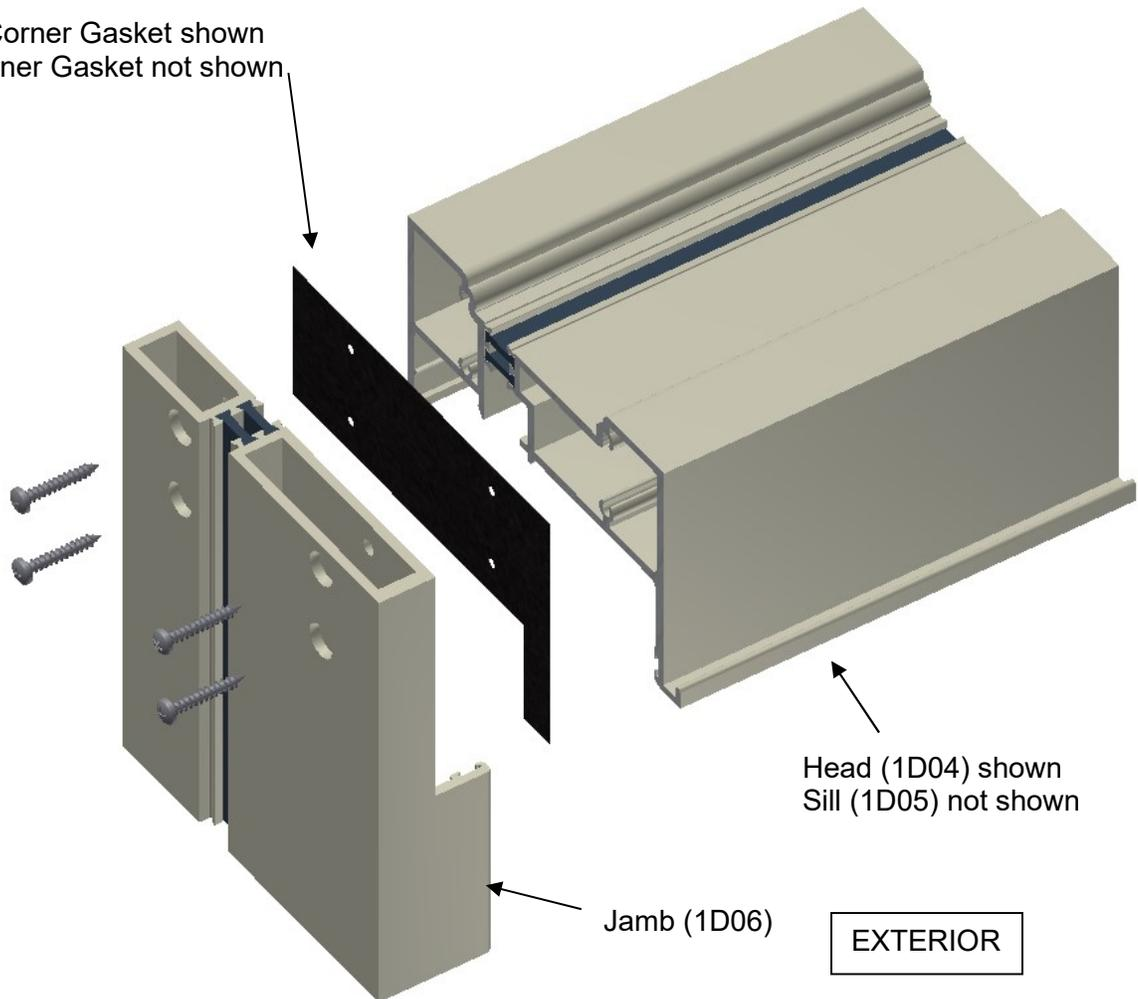

Fig.1
1. Locate frame head (1D04), sill (1D05), and jambs (1D06). Locate head corner gaskets (H10B) and sill corner gaskets (H10C). Locate the SLQ9 (#10-16 x 1" PH-SMS 410 AB MG) assembly screws. (See Fig. 1)